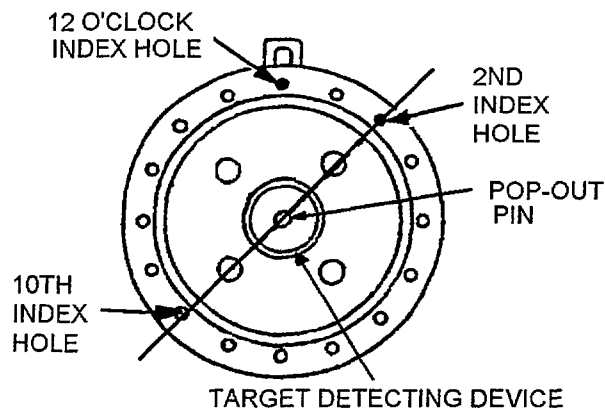

Figure 4-12C. Pop-Out Pin Orientation
- b. Check pop-out pin in TDD and verify that it is positioned for X fin orientation (Figure 4-12C). Insert arming wire remnant in vacant hole in TDD and remove safety pin and warning tag.